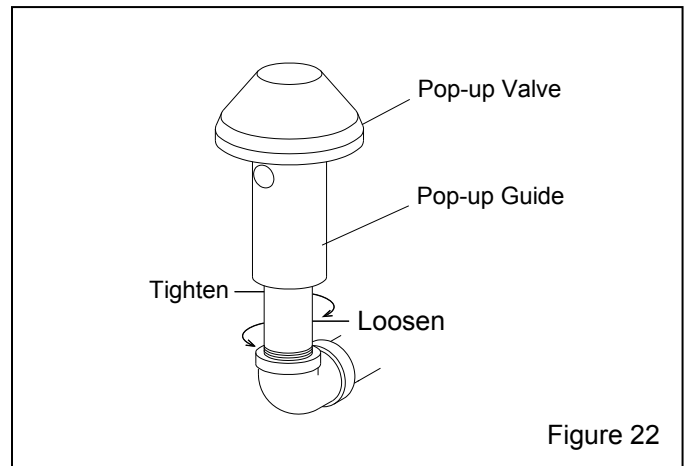

Figure 22
7.7.4 Use a short pipe wrench to unscrew the pop-up valve guide as shown in Figure 22, by turning it counterclockwise. Remove the pop-up valve and guide from the machine.